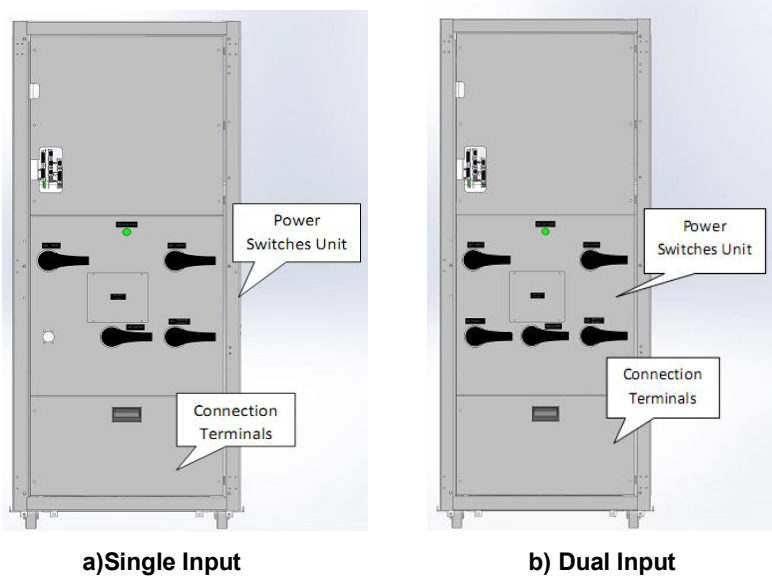

Figure-6 UPS front view
- Remove front and back fixation elements shown in Figure-6(A).
- Roll the UPS on rollers shown in Figure-6 (B) to the place where UPS will be operated.